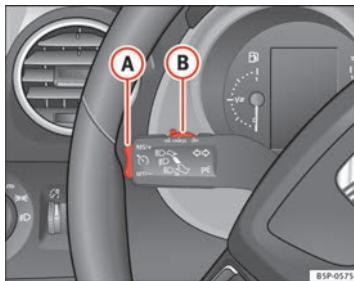

Fig. 154 Turn signal and main beam headlight lever: switch and rocker switch for the cruise control
- Push the switch \Rightarrow Fig. 154 (B) to the left to **ON**.